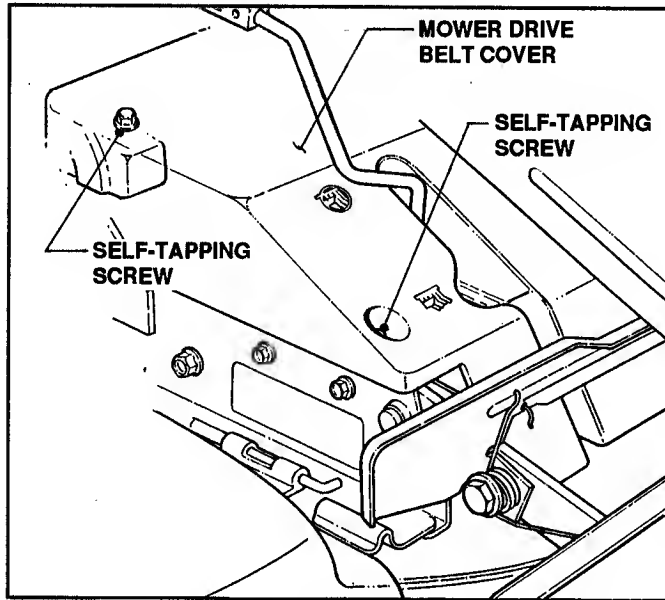

FIGURE 3.3
- Remove four self-tapping screws, two on each side of mower drive belt cover. See Figure 3.3.